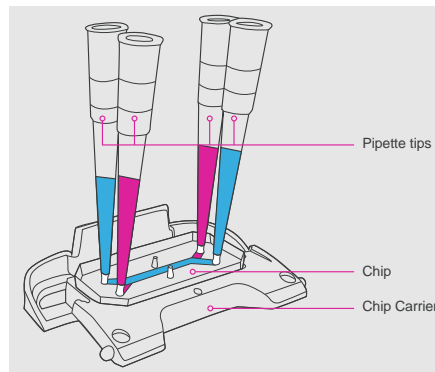

Figure 7: Chip with filtered tips inserted into ports with respective media
2. A wash with 200  $\mu$ L of Complete Maintenance Medium for the top channel and Complete EGM-2MV Culture Medium for the bottom channel per chip will provide nutrients to cells. Since there are two different media being used, these two media must be separated by keeping them in filtered tips instead of drops. (See Figure 7)